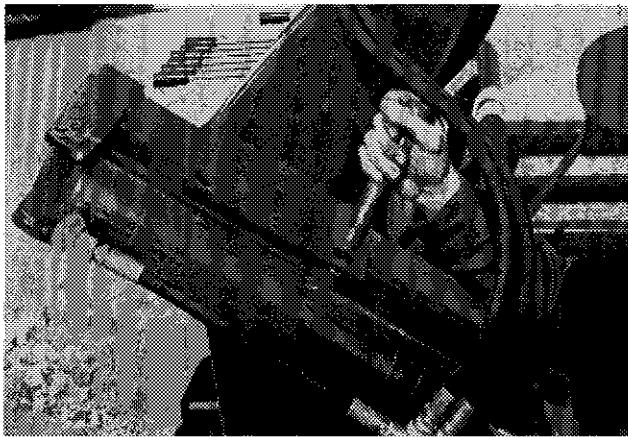
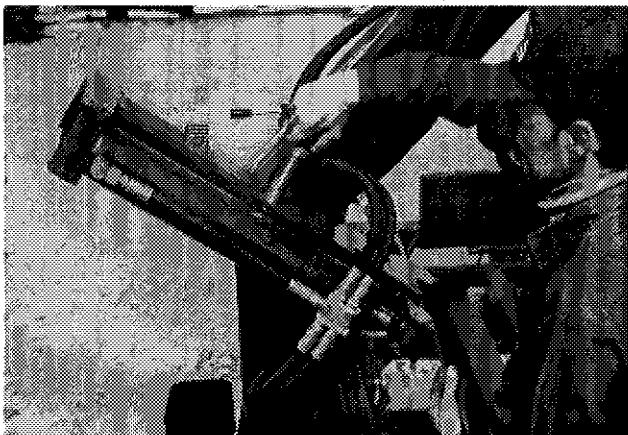

Figure 16
Figure 17
- 1) Position the six (6) stretcher hydraulic cylinder assemblies according to the size of tube used. Use the inside holes for 4 ft. tubes, 48" to 56" (1.22 to 1.42 m) (Fig.16). Use the outside holes for 5 ft. tubes, 56" to 66" (1.42 to 1.68 m) (Fig.17).